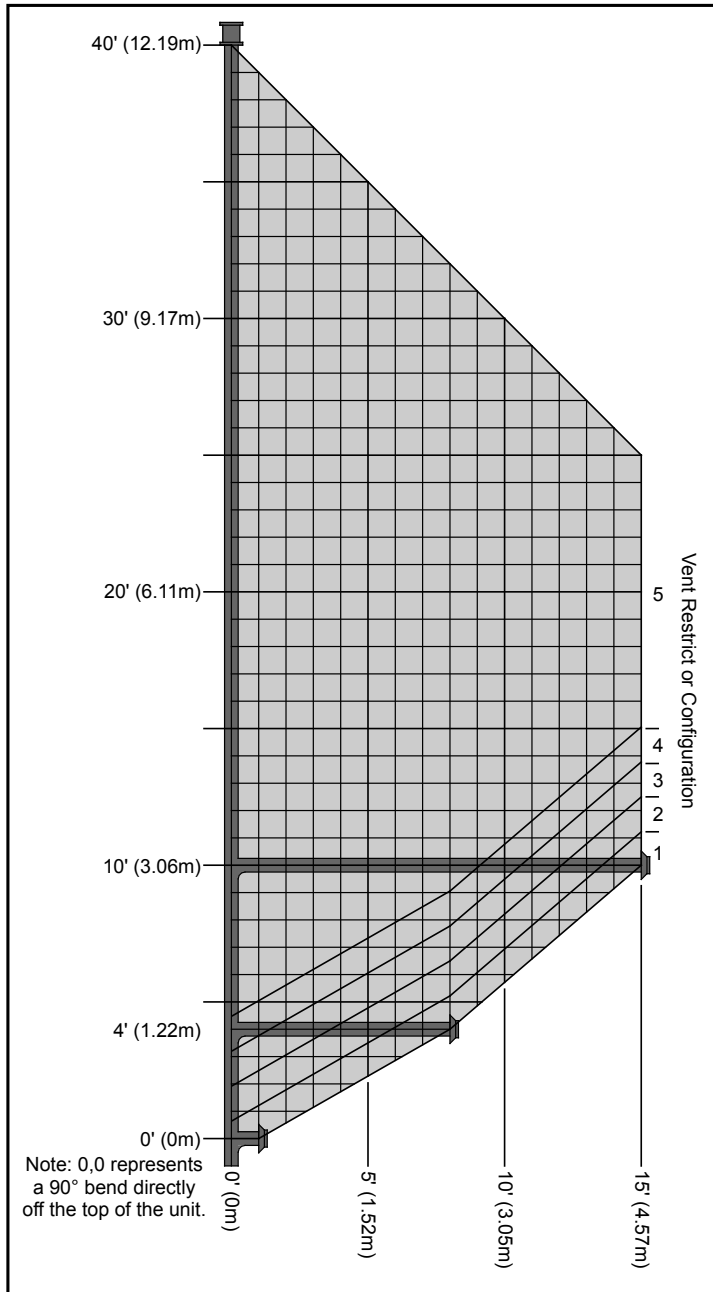
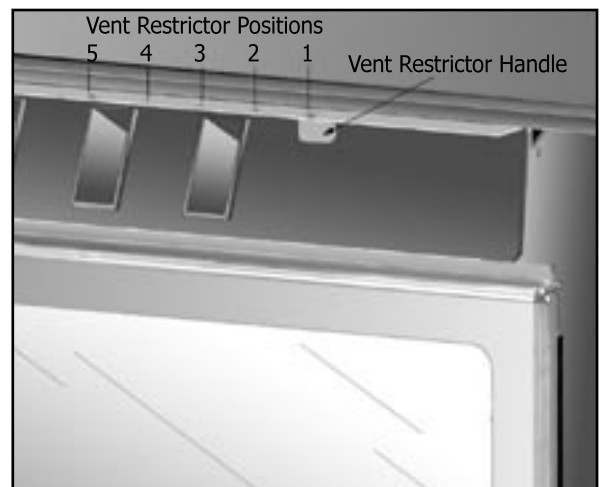

Figure 23. Possible Vent Configurations
Figure 24. Possible Vent Restrictor Positions
4. Frame the hole as shown in Figure 24.
5. Trim the wall thimble to match the wall thickness as necessary. Install the wall thimble and secure it to the inner wall frame using four (4) 1½" wood screws. If a wall is greater than 8" (203mm) in depth, the clearance above the flex must be 4¾" (111mm)
Figure 23 shows the range of venting options, it shows possible vent configurations if the unit is top vented, for vertical and horizontal terminations, any layout that remains within the shaded area is acceptable. Having the fewest number of elbows is ideal, as they tend to disrupt air movement. Using 45° elbows is preferable to using 90° elbows. Also, a shorter vent system will perform better than a longer one.
The vent restrictor controls the amount of air moving through the vent pipe. Longer vertical vent lengths necessitate greater restriction; position 1 is open and position 5 is maximum restriction. Figure 23 shows the vent restrictor settings required, relative to the length of vent pipe. The vent restrictor is located on the right side of the fireplace, above the glass. Figure 24 shows the vent restrictor handle and the holes that indicate the different levels. To avoid injury, it is best to make this adjustment when the fireplace is cool or use welder's gloves or oven mitts.
Note: 0,0 in Figure 23 represents a 90° bend directly off the outlet of the unit, 46" (1169 mm) from floor. This is for all horizontal instances **except** when using Selkirk and having less than a 4 feet (1.22 m) rise and 8 feet (2.44 m) horizontal offset. In this case, a 1 foot rise must be added below the 90° bend.